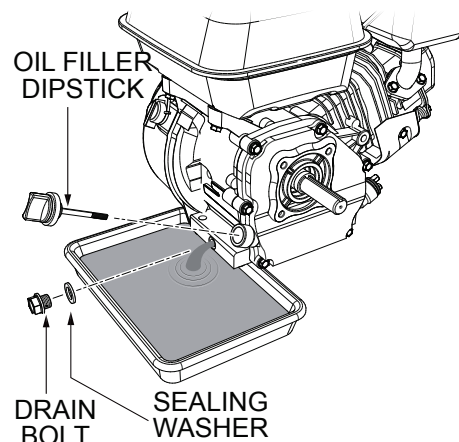

Figure 29. Draining Engine Oil
1. Drain the engine oil when the oil is warm as shown in Figure 29.